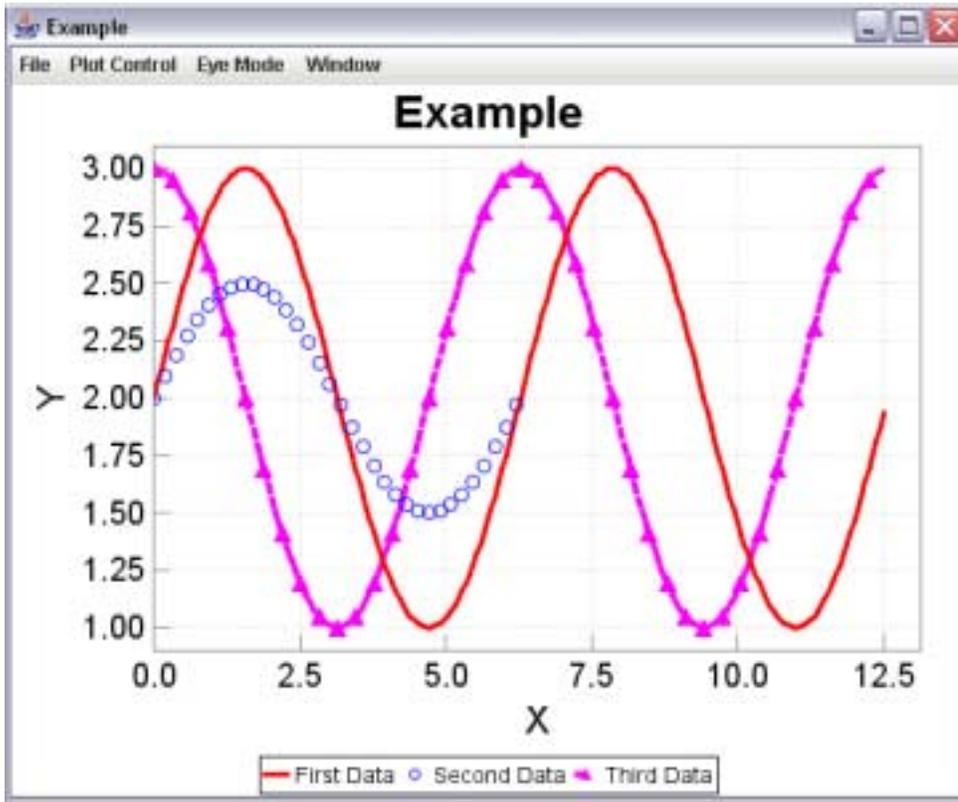

Figure 3.9: A typical plot window.
Additional GUI elements implemented are organized by regular menus. As shown in Figure 3.9, there are four menus on the menu bar: (1) File, (2) Plot Control, (3) Eye Mode, and (4) Window.